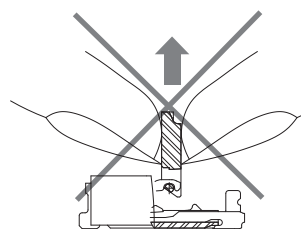

Fig. 3
- ③ The actuator will rotate 125°C Do not apply force to rotate further.
- ④ When opening or closing the actuator, do so at the center section.
- ⑤ Do not grasp or and lift the actuator (Fig. 3) nor insert the nail from the back of it (Fig. 4).